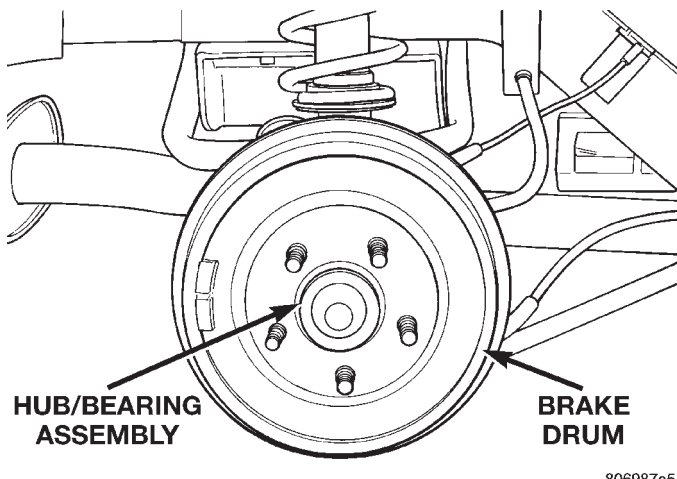

Fig. 59 Rear Brake Drum Assembly
- (1) Raise vehicle on jackstands or centered on a hoist. See Hoisting in the Lubrication and Maintenance section of this manual.
- (2) Remove the rear wheel and tire assemblies from the vehicle.
- (3) Remove rear brake drum to hub retaining clips (if equipped). Then remove rear brake drum from hub and bearing assembly (Fig. 59).